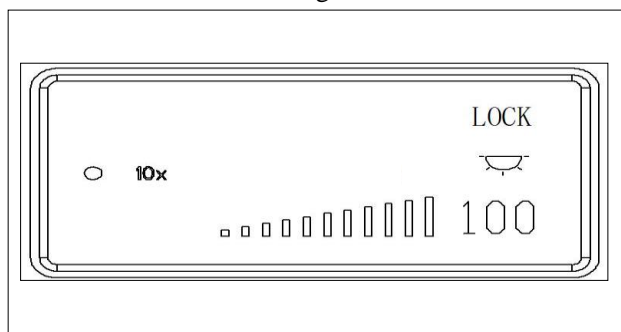

Fig.13
3. Double-click knob: Lightlock or unlock (Fig.13). When locking, the dimmer handwheel fails, and the LCD displays "LOCK", unlock does not display; double-click the button again to unlock, and "LOCK" disappears on the screen;